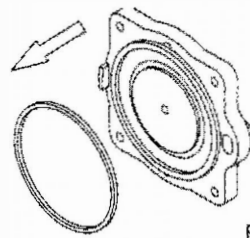

Fig.7
⑤Remove the diaphragm ring and diaphragm from diaphragm base(refer to fig.7 and 8). If it is stuck, remove the diaphragm with pliers.